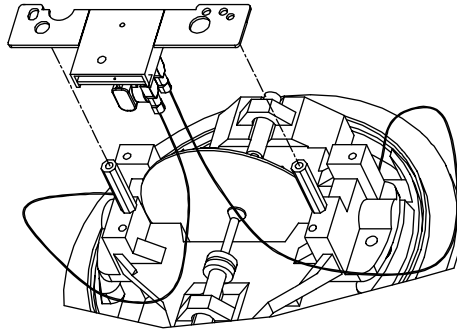

Figure 22. Installing the WOPI
8. Position the WOPI on the meter base so that the mounting bracket holes are aligned with the face plate screw holes. Ensure none of the wires are touching the meter disk or shaft. See Figure 22.